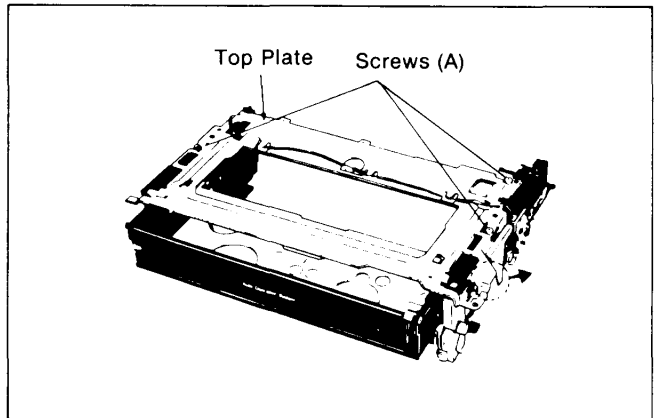

Figure M60
2. Remove 3 screws (A) as shown in Figure M60.
9. Install the top plate on the Cassette Compartment Base and tighten the 2 screws (A) as shown in Figure M60.